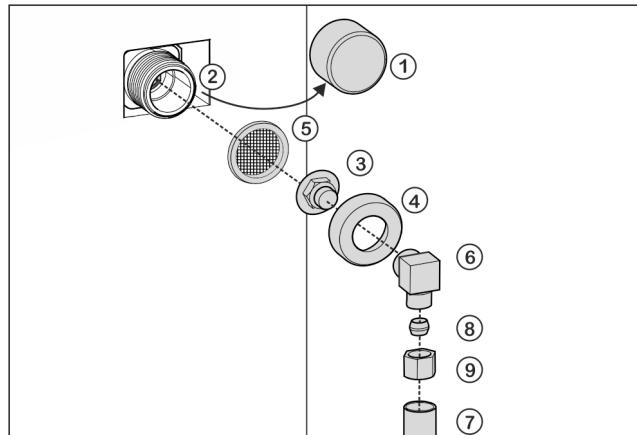

Fig. 25
- Remove cap Fig. 25 (1) from solenoid valve Fig. 25 (2).
- Insert coupler Fig. 25 (3) into union nut Fig. 25 (4).
- Insert the filter Fig. 25 (5) with the recess pointing down towards the coupler Fig. 25 (3).
- Screw the union nut Fig. 25 (4) by hand onto the thread of the solenoid valve Fig. 25 (2) until it is firmly in place.
- Screw on angle piece Fig. 25 (6).
- Connect the water pipe Fig. 25 (7) (e. g. 1/4" OD copper pipe) with the clamp ring Fig. 25 (8) and nut Fig. 25 (9) to the elbow connector Fig. 25 (6).
- If necessary: Fasten the water pipe *Fig. 25 (7)* to the housing with the guide clip.
- Put angle piece *Fig. 25 (6)* to one side.
- Connect the water pipe *Fig. 25 (7)* (e. g. 1/4" OD copper pipe) with the clamp ring *Fig. 25 (8)* and nut *Fig. 25 (9)* to the coupler *Fig. 25 (3)*.